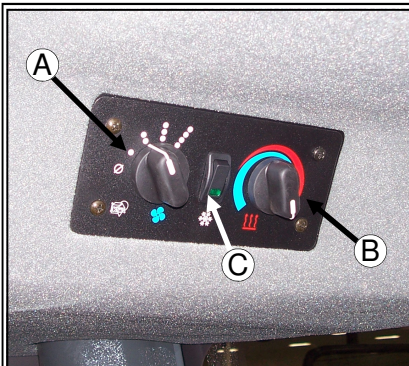

FIG. 4.10-4
The climate controls (fig. 4.10-4) are continuous adjusting dial switches located on the front upper cab headliner.
**Adjusting Fan Blower Speed—** fan blower speed is controlled by the left rotary dial (fig. 4.10-4, item A). To increase the fan speed, rotate the dial clockwise. To reduce the fan speed, rotate the dial counterclockwise. To shut the fan off, rotate the dial all the way counterclockwise.
**Adjusting Temperature Setting—** forced air temperature adjustments are controlled by the right rotary dial (fig. 4.10-4, item B). Temperature control is a continuously variable adjustment. To increase the forced air temperature, rotate the dial clockwise. To decrease the forced air temperature, rotate the dial counterclockwise.
**Operating the Air Conditioning—** to activate the air conditioner, press the air conditioning switch (fig. 4.10-4, item C). Adjust fan speed and temperature accordingly. See section B under SERVICE for servicing information.